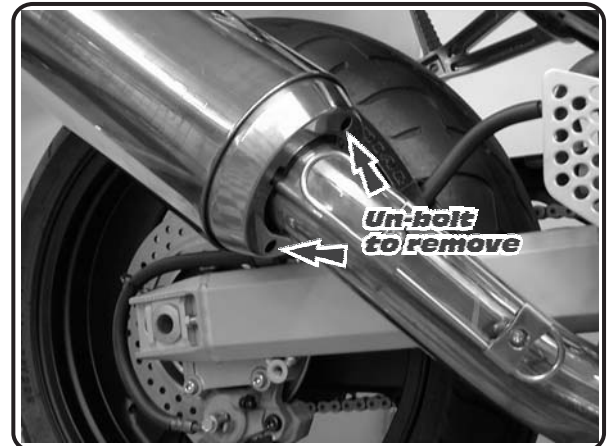

Fig. 1
- 1 Remove stock muffler assembly. (See Fig.1 &2)